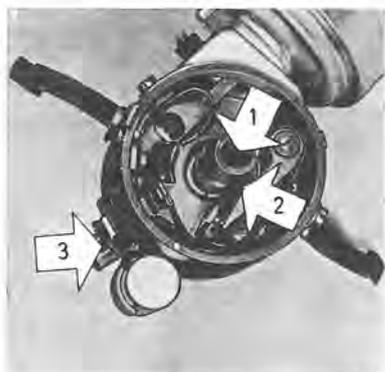

Fig. 1-10. Distributor
After every 10 000 km (6 000 miles) the distributor should be lubricated. The distributor shaft should be lubricated by filling the oil cup (3, Fig. 1-10) with engine oil. After filling, close the cup. The surface (2) of the cam disc is lubricated with a thin coating of grease, Bosch Ft 1 v 4, or corresponding grease. The ignition advance mechanism is lubricated by pouring 2—3 drops of light engine oil (SAE 10 W) on the wick (1) in the distributor shaft.